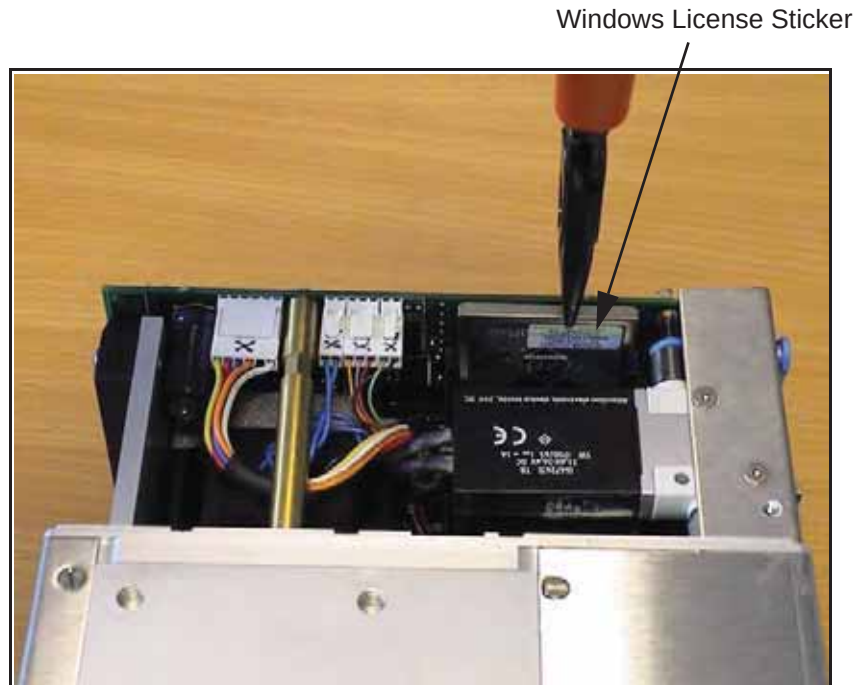

Figure 5-13: Compact Flash Card Removal
- 2 The Compact Flash card is located on the side with the mounting plate (the opposite side to the printhead). Using a pair of long nosed pliers, gently grip the Compact Flash Card and pull to extract (Figure 5-13).